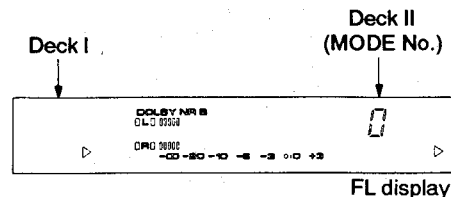

Fig. 4-1 FL display example 1
- To enter the test mode, set both DECK I and DECK II into the STOP mode and press the TIME/COUNT key of DECK I, RESET key of DECK I and PAUSE key of DECK II all together. (Refer to Fig. 4-1)